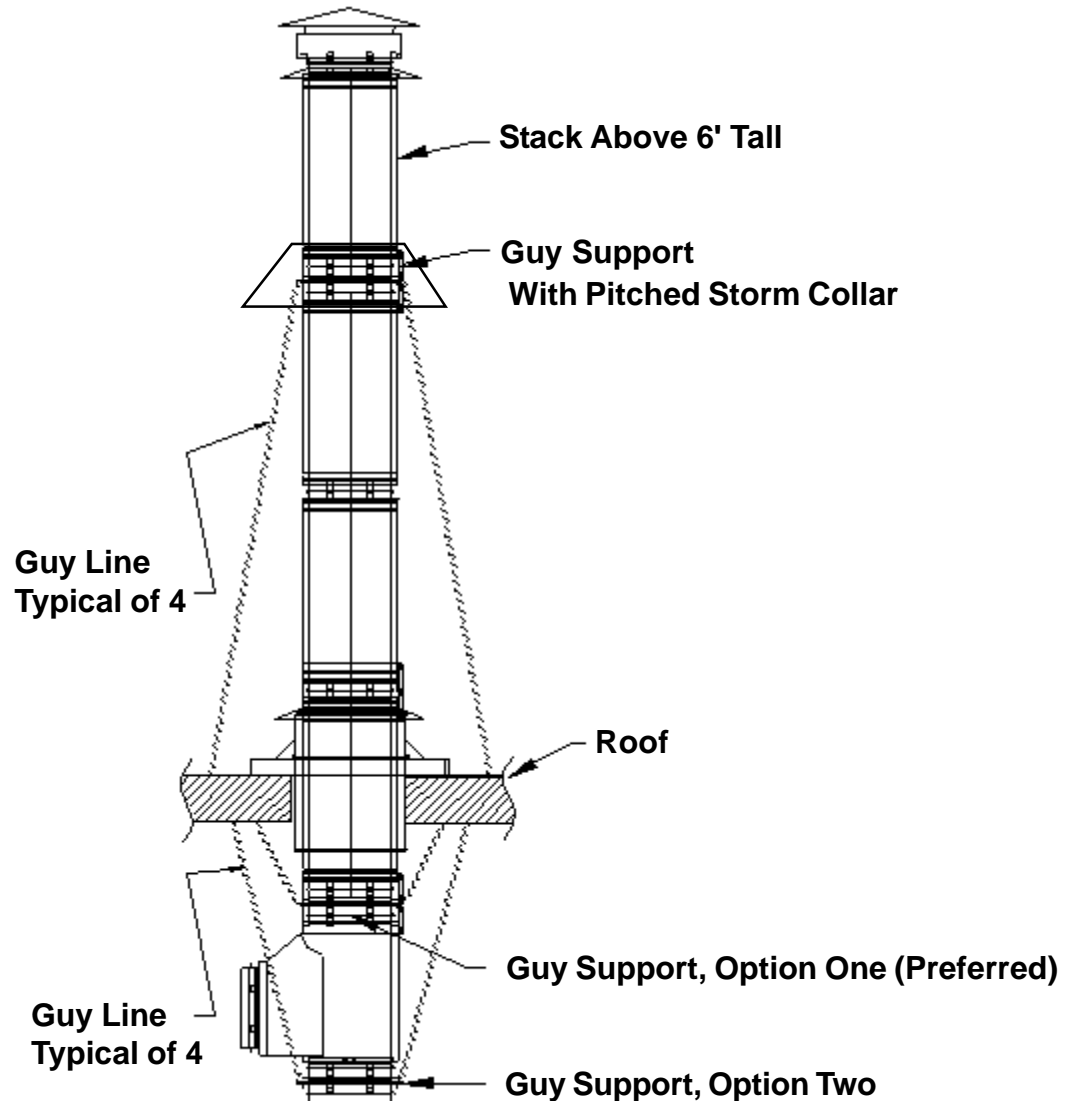

Figure 6
5. Install the coupler band over the boiler adapter to finish installation, *figure 6*.
APPLICATION 3. **Support Above a Roof (Figure 6).**